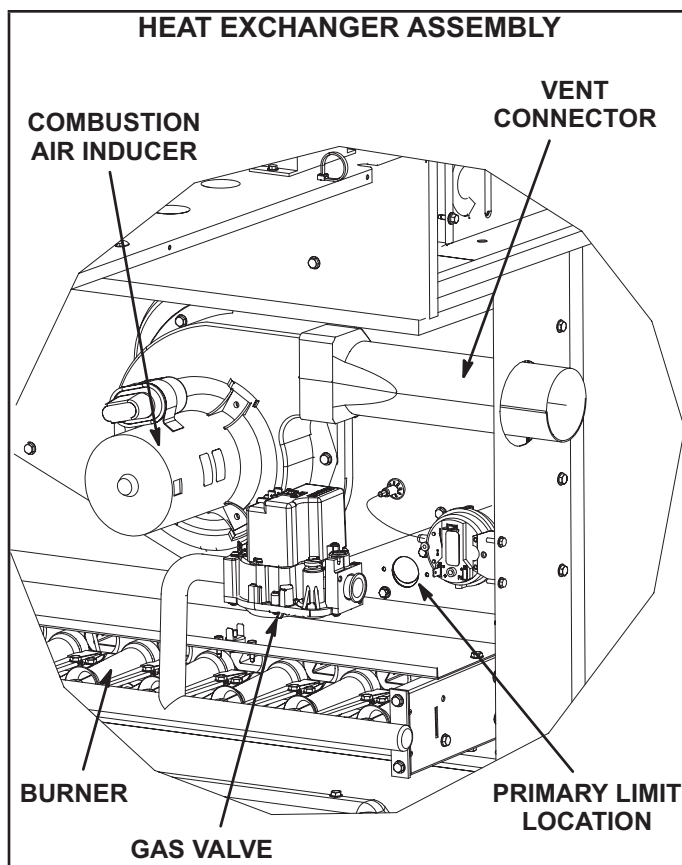

FIGURE 29
Limit controls are factory-set and are not adjustable. The primary limit is located to the right of the combustion air inducer. See FIGURE 29.
- 3 - Remove and retain screws securing combustion air inducer to flue box. Remove vent connector. See FIGURE 29.